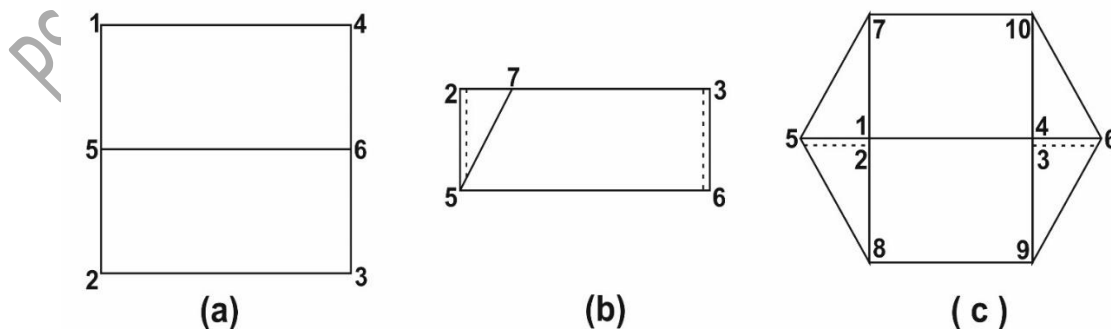

**Fig: 1.6 Layout of Chudidhar Pyjama on full width of fabric**
**Layout on plain cloth:** As stated earlier, a chudidhar pyjama is cut on bias grain for a perfect fit. Figure 1.6 is a suggestive layout of pattern pieces of chudidhar pyjama for cutting. This layout is followed when no joint is required, but in this case, a lot of material (fabric) is wasted as shown in this figure by horizontal lines.